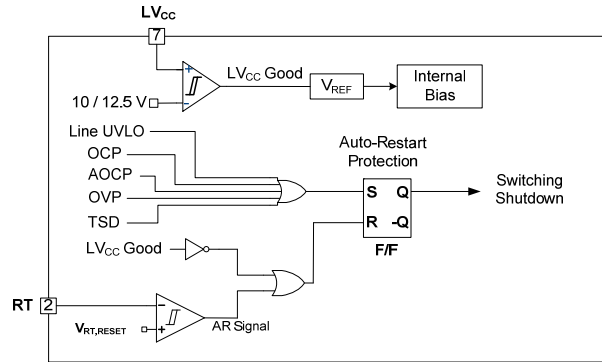

Figure 24. Protection Blocks
5. Protection Circuits: The FSFR-HS series has several self-protective functions; such as Over-Current Protection (OCP), Abnormal Over-Current Protection (AOC), Over-Voltage Protection (OVP), Thermal Shutdown (TSD), and Line Under-Voltage Lockout (LUVLO or Brownout). These protections are Auto-Restart Mode protections, as shown in Figure 24.